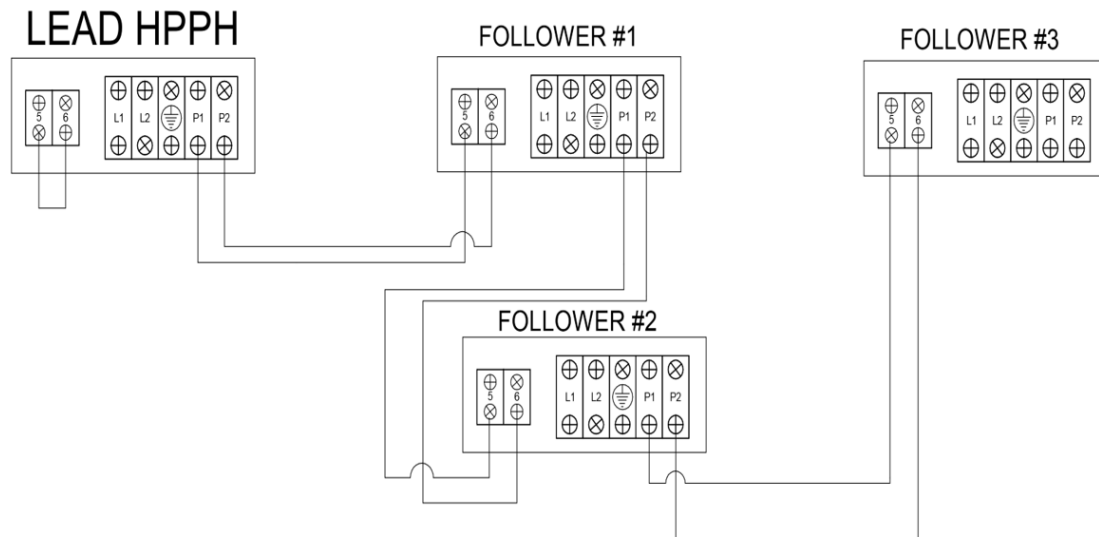

Figure 14. Lead Multiple HPPH Wiring
4. Press the **FAN** pad to enter the modification code - press the **+** pad to change the code to "1". (The value of the code will be flashing. The modification code 1 – water temperature control through terminals P1 & P2). See **Figure 14**.